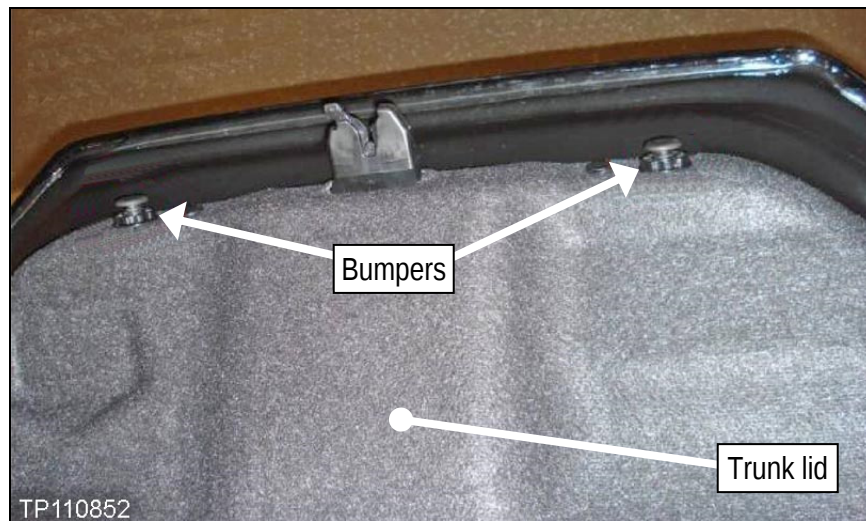

Figure 41f
- a. Remove both bumpers (see Figure 41f).